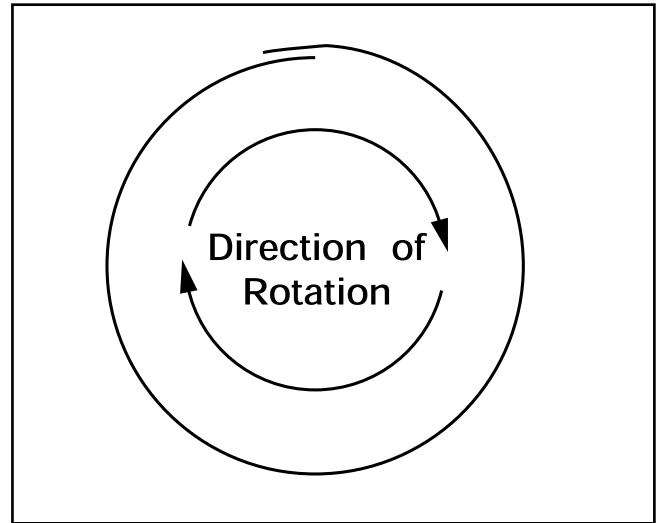

Figure 23. Recommended sleeve overlap.
3. Slide sanding sleeve onto the drum. Ensure that the arrows on the inside of the sleeve correspond to the direction of the drum movement. If the sleeve has no arrows, slide the sleeve on the drum so the overlap is at the trailing edge of the drum movement. **See Figure 23.**